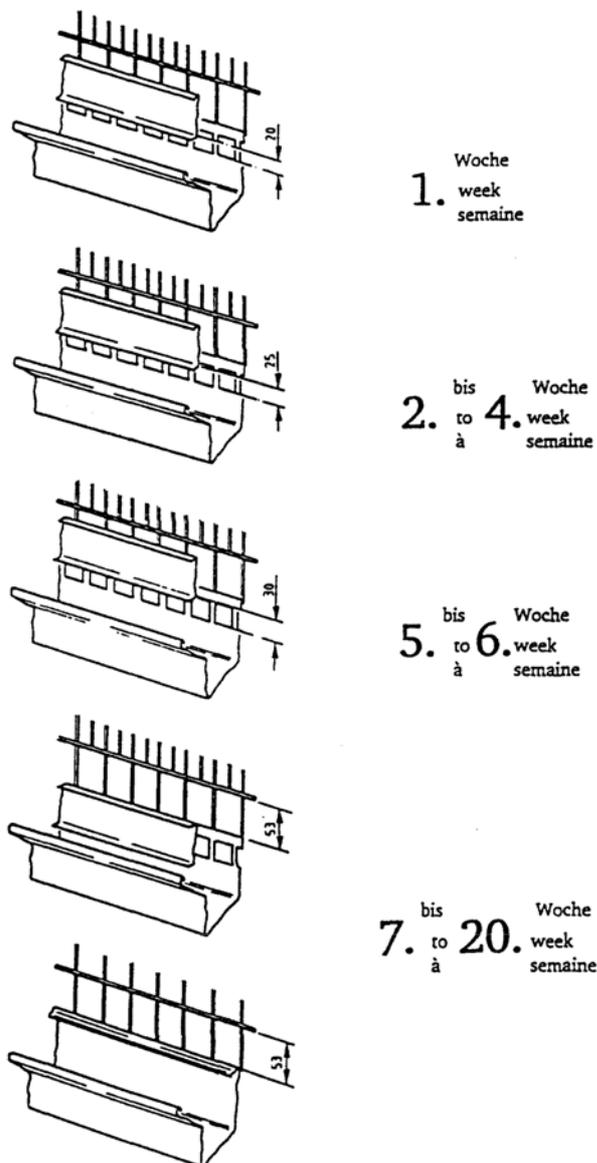

Figure 5-1: Adjustment of eating window
- Adjust the adjusting rails with lever adjustment to the lower position, => figure 5-1.